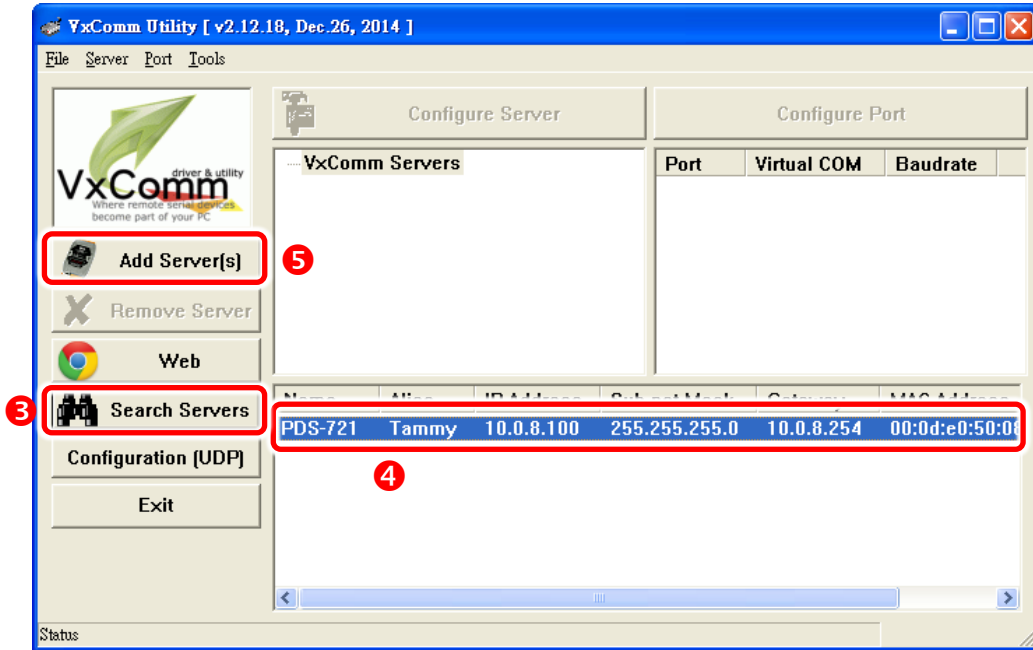

Figure 7-1.1
**Step 1:** Please ensure that the **Figures 7.1.1 to 7.1.8** are correctly configured.